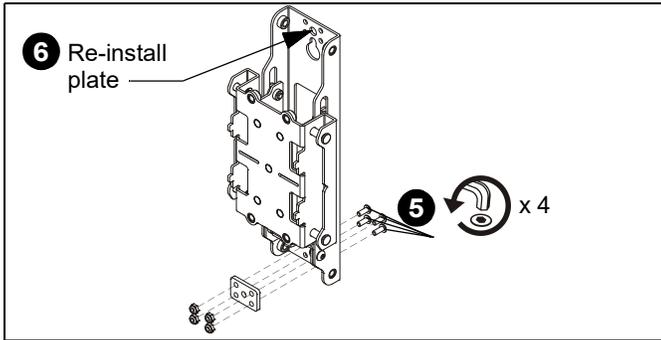

Figure 5
- Remove four button head screws and nuts, and one small metal plate from lower side within wall upright. (See Figure 5)
- Reinstall metal plate at top of wall upright using same hardware removed in Step 5. (See Figure 5)